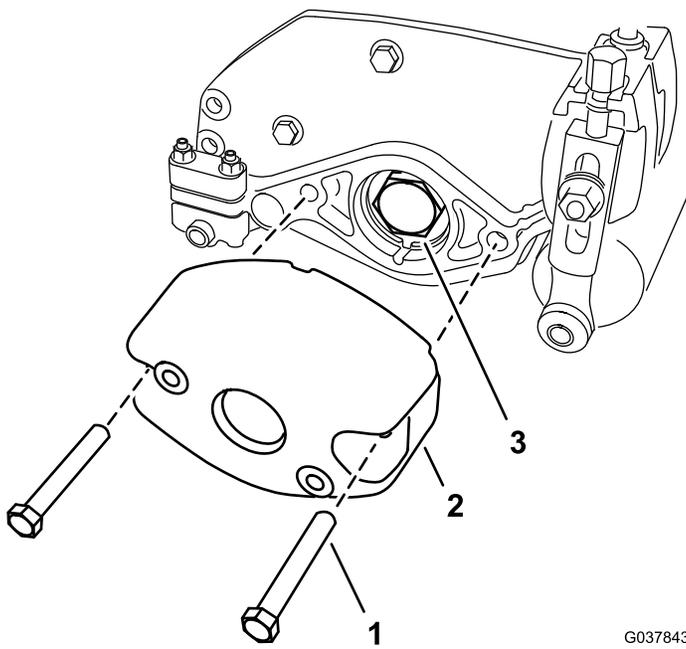

Figure 4
6. Remove the 2 bolts (5/16 x 2-1/4 inches) from the 2 nuts (held captive by the side plate) securing the counterweight on the side plate of the cutting unit. Remove the counterweight (Figure 4).
8. Remove the bearing nut from the reel shaft (Figure 4).